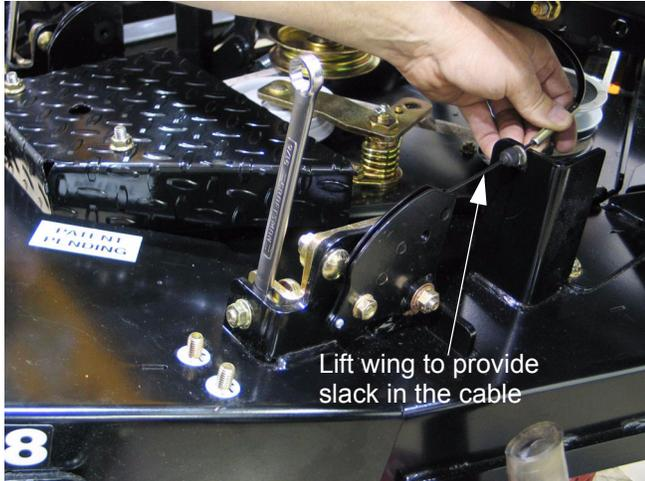

Figure 8.6
- 8.6. With the wings unlatched, they can be lifted manually. Lift the wings manually to put slack in the lift cable so that the end of the cable can be slipped-out of the hole and slot in the bracket. See Figure 8.6.